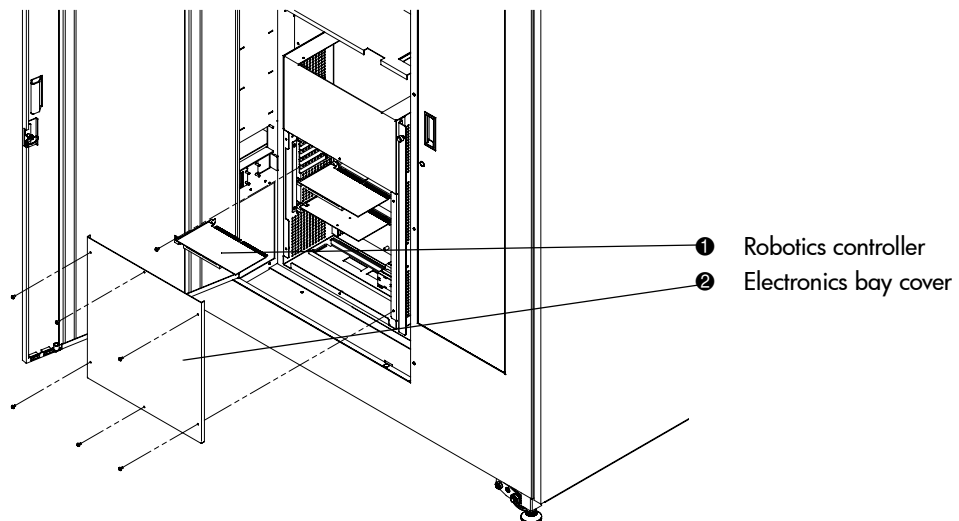

Figure 1: Robotics controller and electronics bay cover
Cross-reference links	Blue text: Figure 1
2. Remove the six Phillips screws that secure the cover over the electronics bay, and remove the cover (see Figure 1).